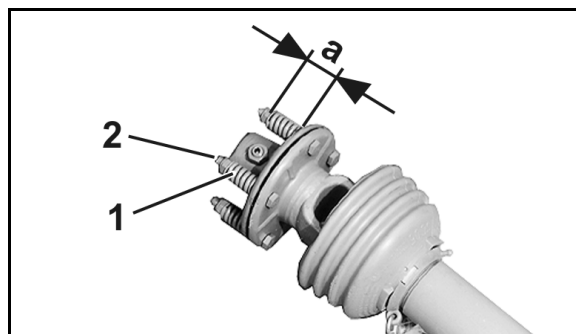

Fig. 75
2. Relieve the springs (Fig. 75/1) by unscrewing the nuts (Fig. 75/2).